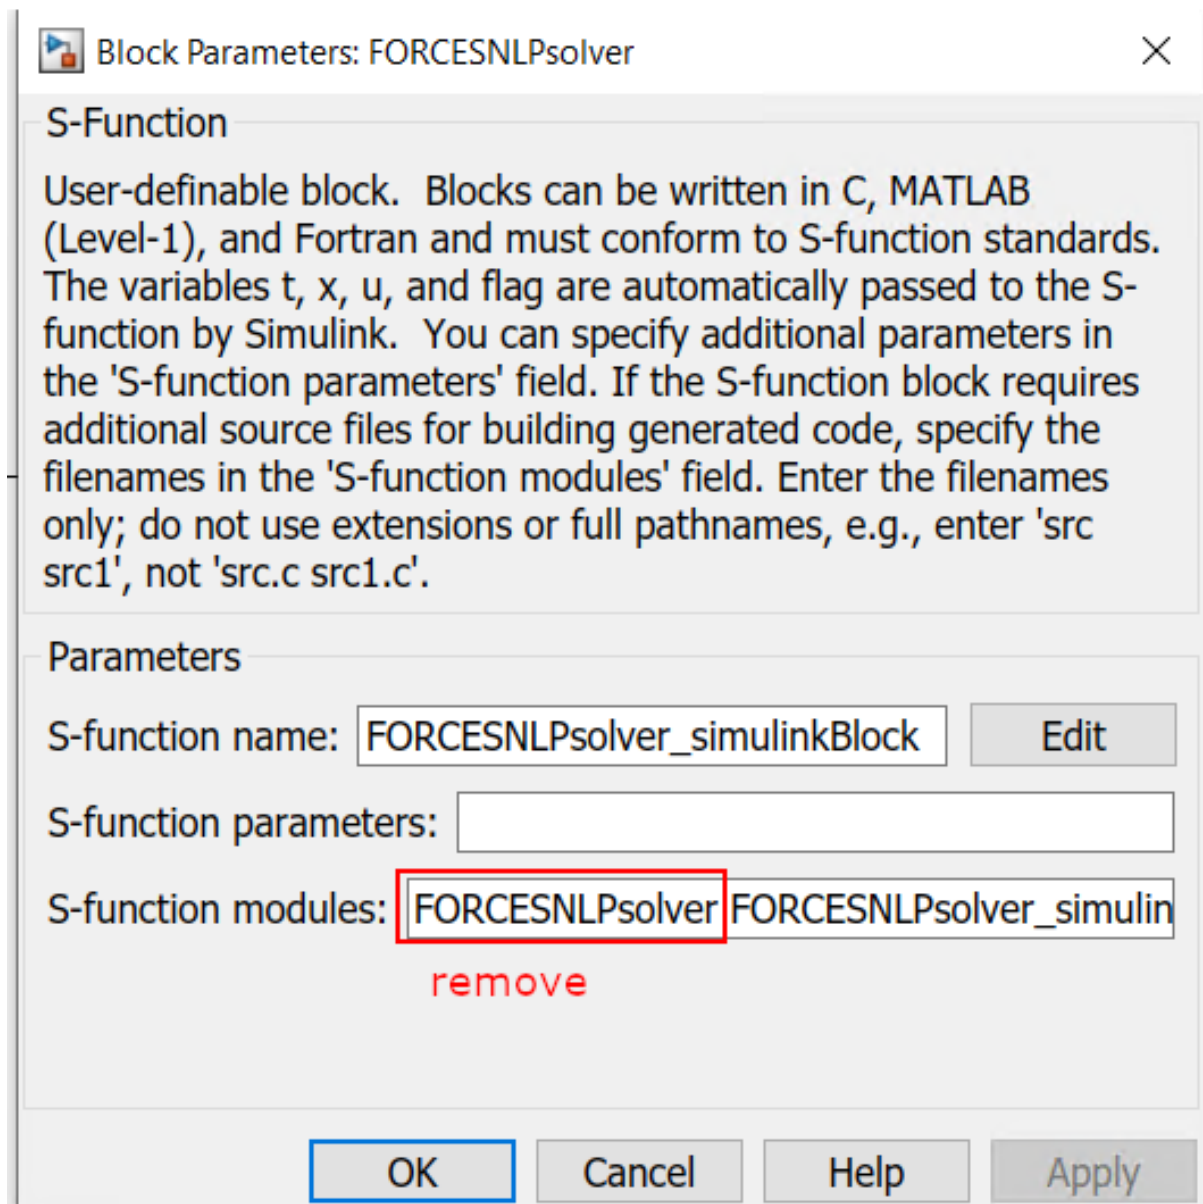

Figure 13.43: Remove the leading solver name from the S-function module.
- 14) Remove the “FORCESNLPsolver” prefix from the S-function module (see Figure 13.43).